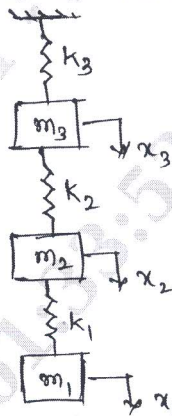

Fig.Q10
- 10 Using Holzer method, find the natural frequencies of the system as shown in Fig.Q10. Assume $m_1 = m_2 = m_3 = 1$ kg and $k_1 = k_2 = k_3 = 1$ N/m.